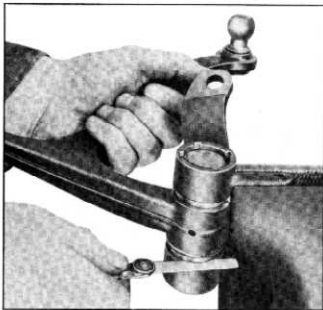

Fig. 10—Clearance Between Idler and Third Arm and Bracket
4. Check clearance between idler and third arm assembly and bracket with a feeler gauge (fig. 10). If this clearance exceeds .006" install shim, part No. 3687657, between bracket and lower face of idler and third arm assembly.